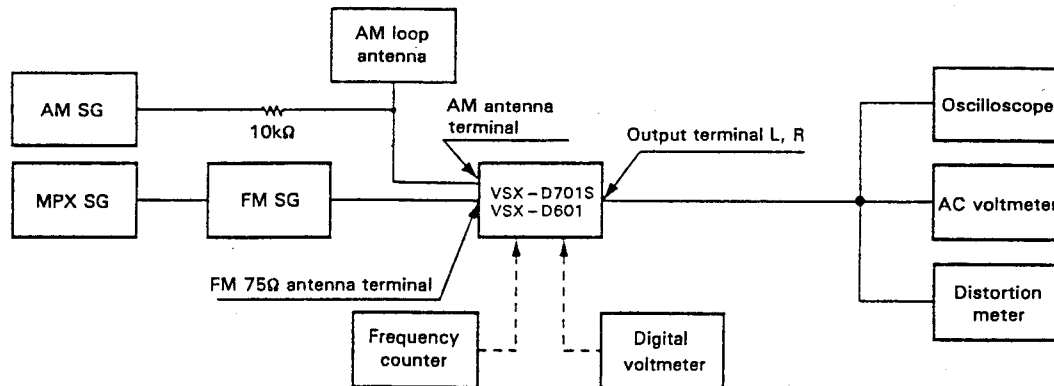

Fig. 7-1 AM and FM adjustment wiring diagram
1. Wiring Connect the wires as shown in Fig. 7-1 (FM ANT. terminal : 75Ω).